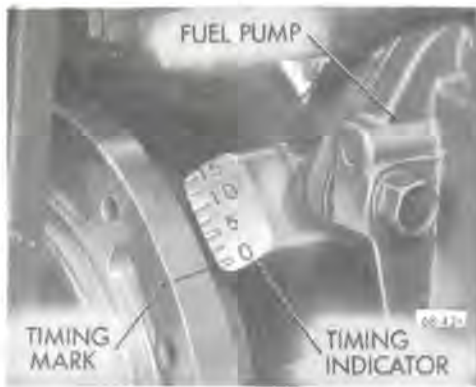

Figure 68-38 - Ignition Timing Mark and Indicator - V-8 Engines
The timing mark is a groove filled with yellow paint, which is in the edge of the harmonic balancer. The timing indicator, a part of the timing chain cover, has ridges outlined with yellow paint. One of these ridges marked "O" indicates T.D.C. See Figure 68-38.
2. Install distributor in engine with rotor in position to fire No. 1 cylinder and with vacuum control in position to connect vacuum hose. See Figure 68-38. Install distributor clamp and bolt with lock washer, leaving bolt just loose enough to allow movement of distributor with hand pressure.